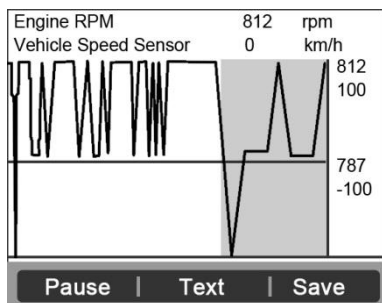

Figure 5.12
- If the “**Graphics**” on the bottom appears when a PID is highlighted, graphic information is available. Select **Graphics** to view graph (*Figure 5.12*). PID name, current value, maximum and minimum values are displayed on the screen.